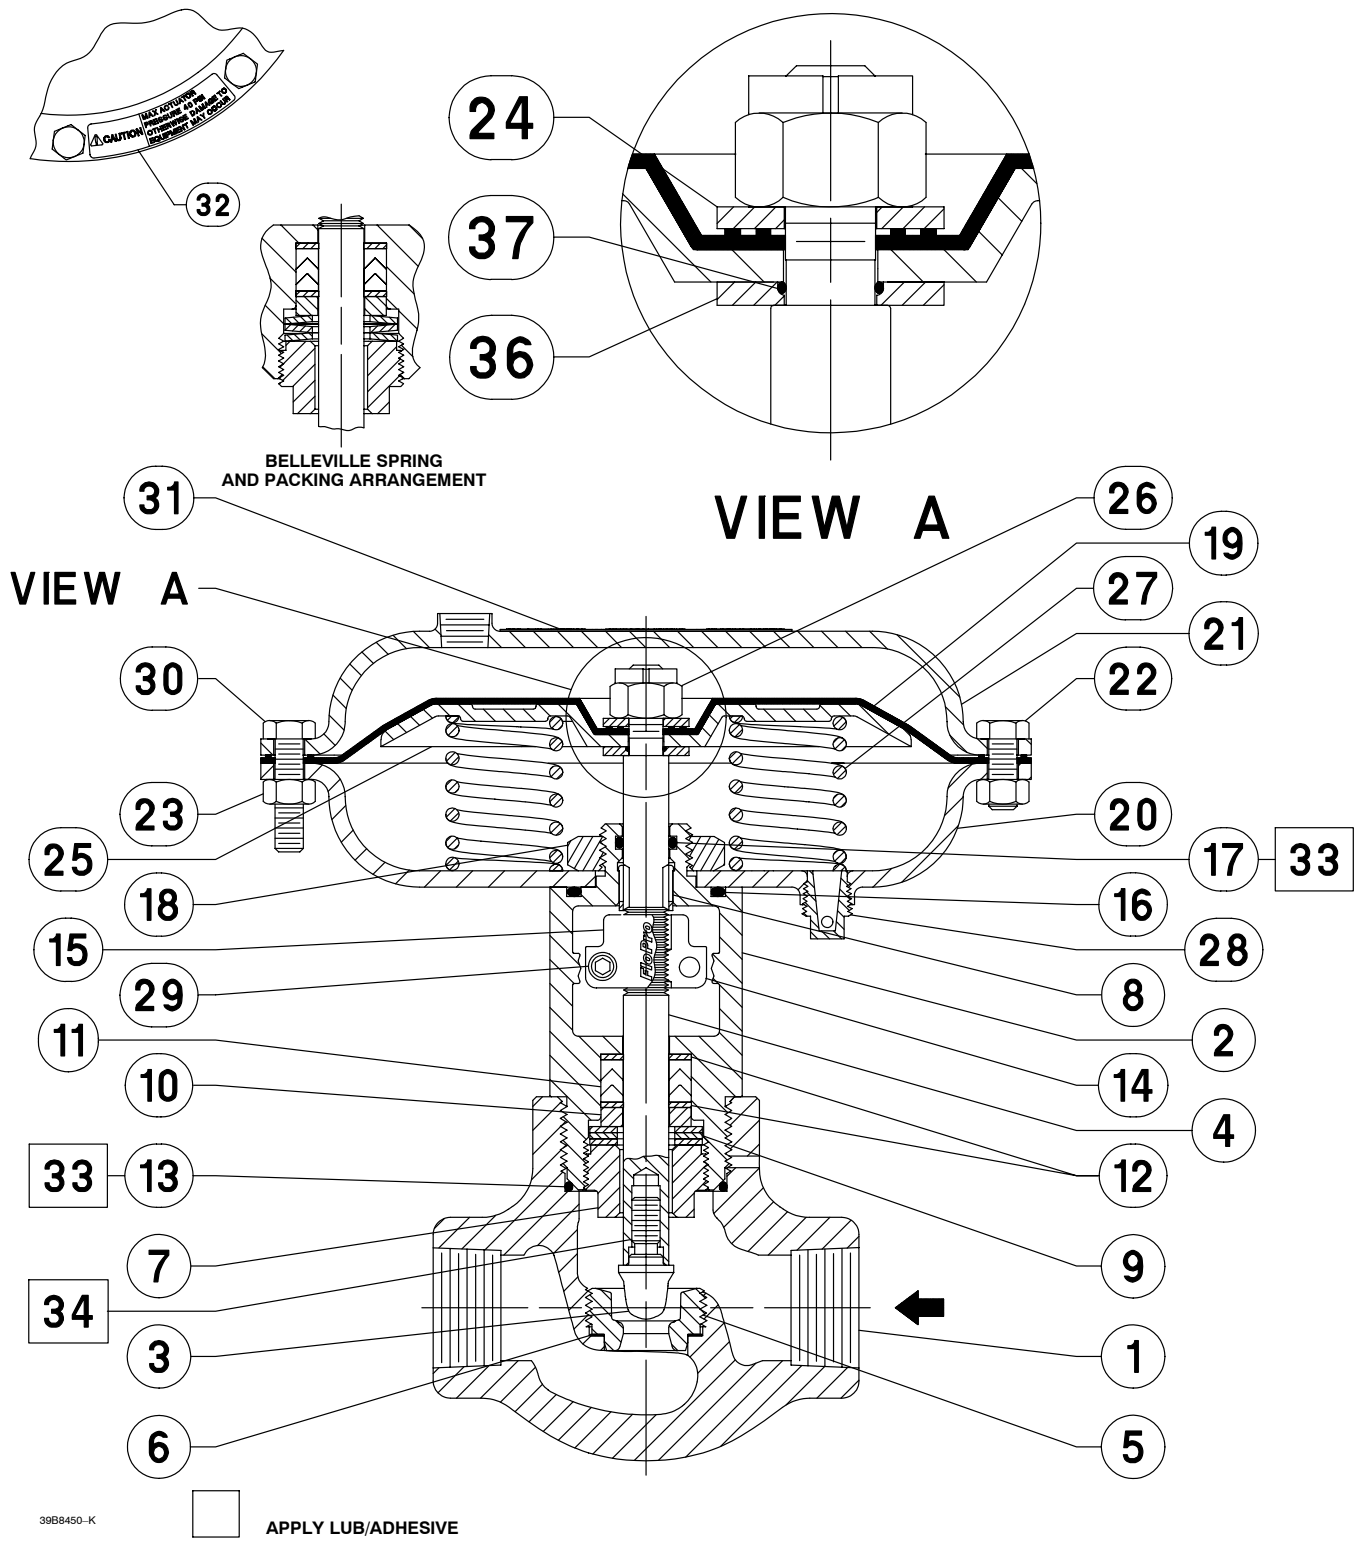

Figure 7. Type D2 FloPro™ Assembly—Air-to-Close
21. **For air-to-close actuator action only (see figure 7)**, assemble the actuator by first placing 2 of the springs (key 27) from the actuator into the bottom casing (key 20), equally spaced, 180 degrees apart. Place the washer (key 36) over the valve stem, as shown in view A of figure 7. Then place the O-ring (key 37) over the valve stem. Next install the diaphragm plate (key 25) and, using the diaphragm plate, correctly position the actuator springs.
a. Place the diaphragm (key 19) over the stem, along with washer (key 24). Position the diaphragm so the holes in the diaphragm align with the holes in the bottom casing.
b. Insert a 1/8 inch diameter drift punch, or other suitable device through the 5/32 inch diameter hole in the valve stem located below the bottom of the previously removed flow adjuster. Install hex nut (key 26) and tighten to 10 N•m (90 lbf•in). Use the 1/8 inch drift punch or other holding device to turn the stem to align the holes of the diaphragm (key 19) to the lower casing (key 20).
22. Position the upper casing and install the two **long** cap screws (key 30) opposite one another. Install the six shorter cap screws (key 22) and the hex nuts, tightening the actuator casing cap screws